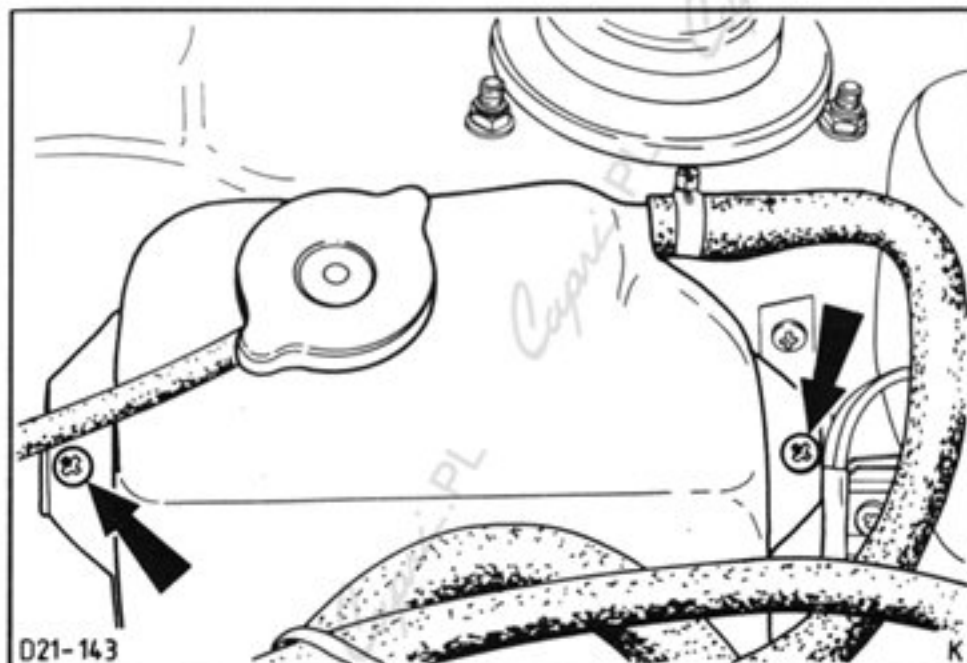

Fig.106. Remove expansion tank.
2. Remove connecting hose from inlet silencer and expansion tank from bracket, ket, Fig.106.